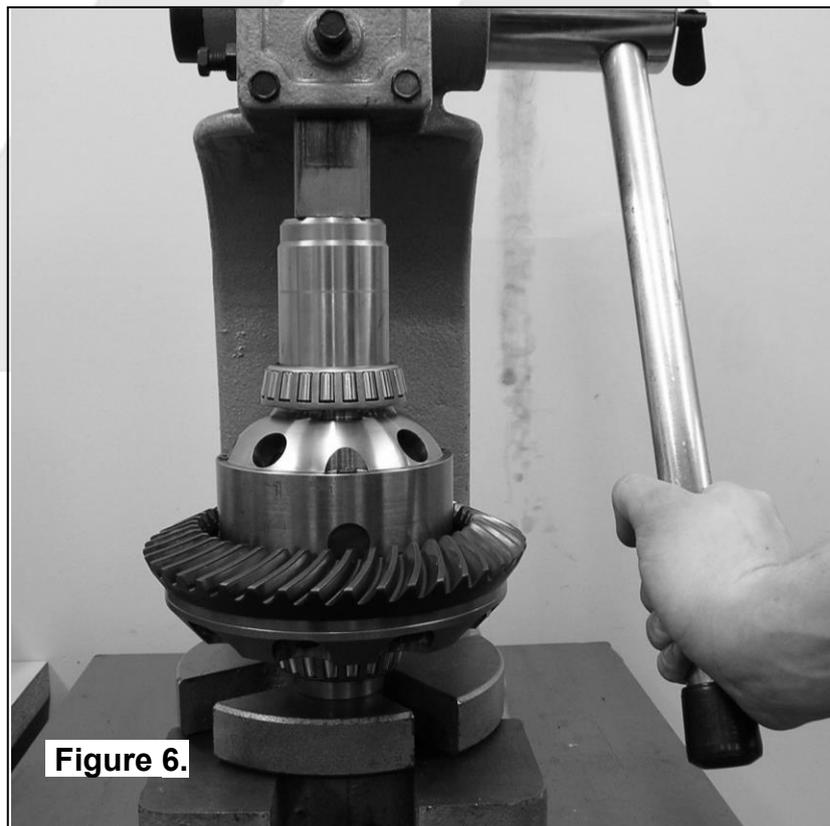

Figure 6.
- Press the case side (right hand side) bearing cone onto one bearing journal of the *Air Locker* (refer to Fig.6.) until the bearing seats firmly against the bearing journal shoulder.